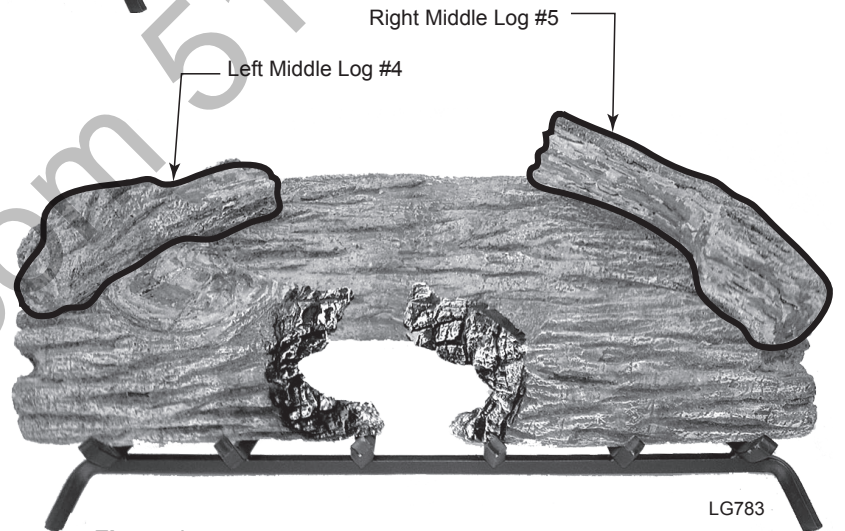

**Figure 13 -
2. Place front left log #2 on the front of the grate and to the left. *Figure 13*
3. Place front right log #3 on the front of the grate and to the right. *Figure 13*